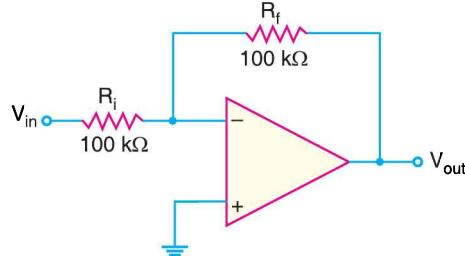

**Fig. 25.103**
10. Determine the closed-loop voltage gain for the circuit shown in Fig. 25.103.